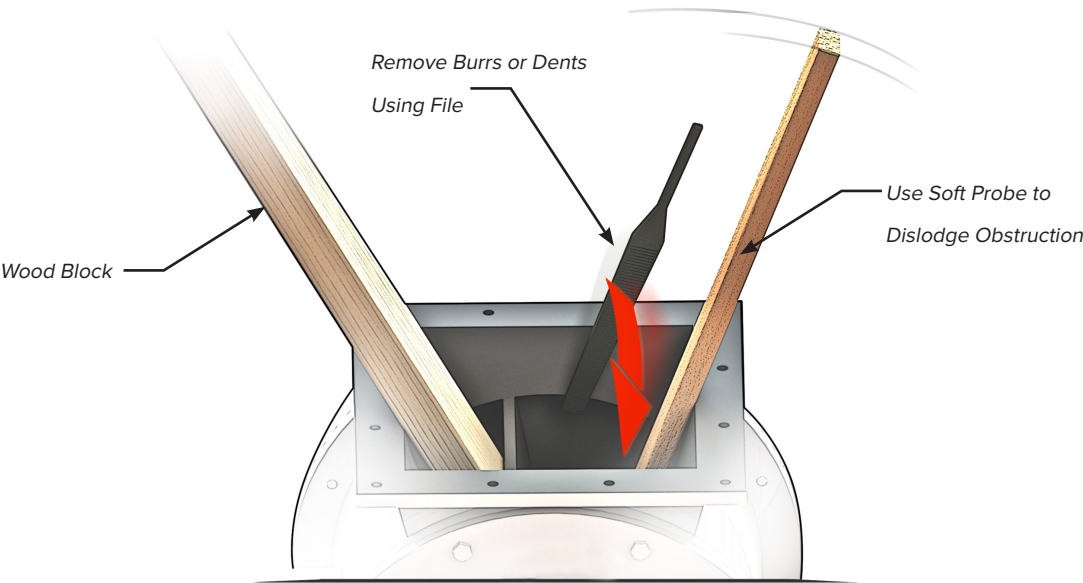

FIGURE 6
3. Place blocks in the airlock to prevent the rotor from turning unexpectedly (Figure 6).
- 4. Place blocks in the airlock to prevent the rotor from turning in either direction (figure 6).